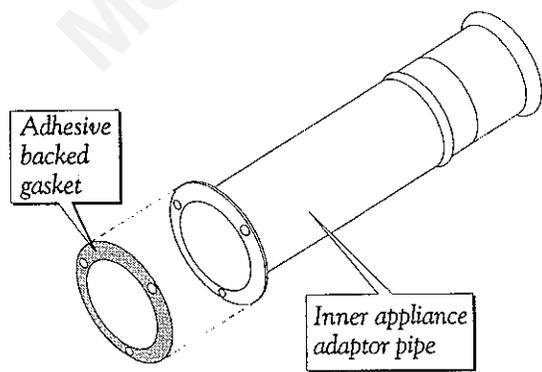

FIGURE 16. Attach gasket to inner adaptor
2. Attach the adhesive-backed gasket (included in the parts bag) to the flat flange of the inner adaptor pipe. Fig. 16.